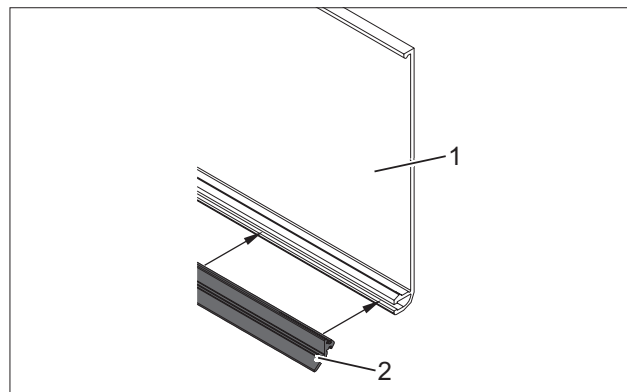

Fig. 42 Preparing the cover profile
1. Install the rubber seal (Fig. 42/2) into the cover profile (Fig. 42/1) throughout the entire length.